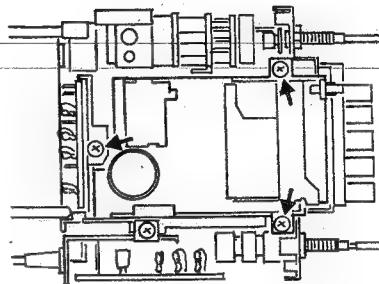

Fig. 8
4. Remove 3 mount screws (3 x 5mm) from the cassette mechanism unit and take it out (see Fig. 8).